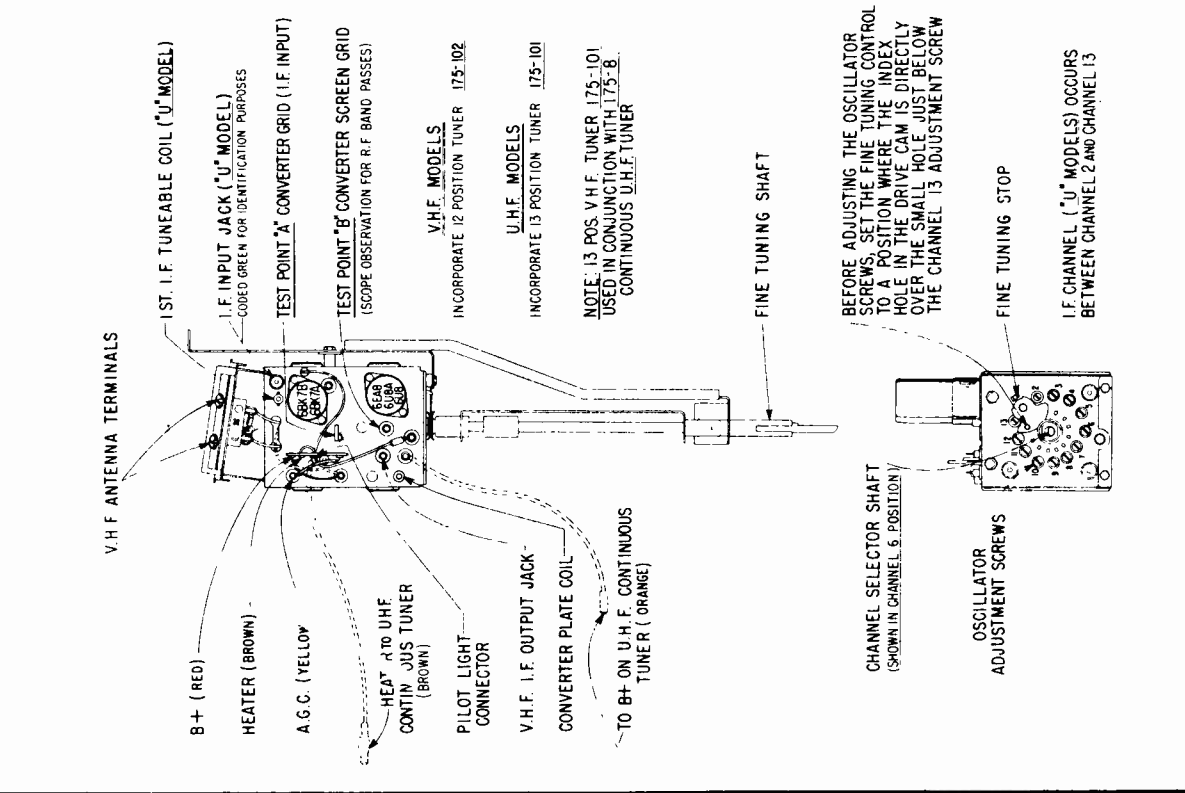

Fig. 2 Tube and Trimmer Layout, Target Tuner
1. Turn the fine tuning control to the approximate position shown in Fig. 2.